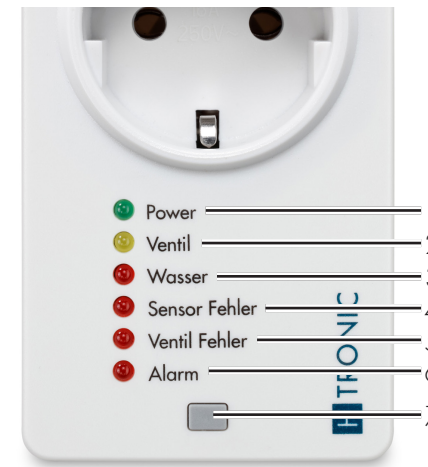

Figure 5 Display of the water protection switch
3. Push the button on the water protection switch (item 7, **Figure 5**).
- ▶ The "Valve" LED lights up (item 2, **Figure 5**).
2. Push the button (item 7, Figure 5).